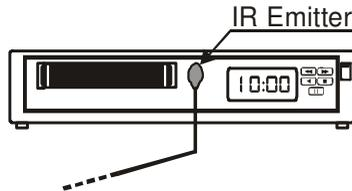

Figure 3: Connecting the IR Emitter
1. Connect the **OUT**2, 3.5mm mini connector3 (from 1 to 4) to the following IR receivers4 via the IR emitter cable (see Figure 3):